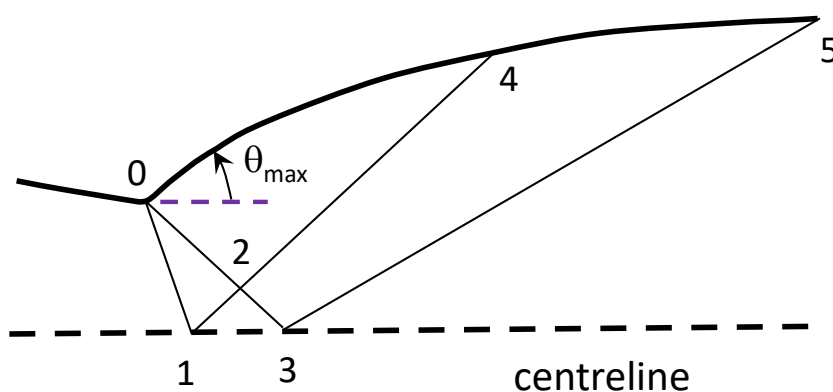

Figure Q.3
- (i) Figure Q.3 below shows four characteristic lines in a 2D convergent-divergent nozzle, designed to accelerate air to an exit Mach number $M_e=1.8$. Show that
- (ii) Complete the following table for a Method of Characteristics (MoC) calculation of a minimum length nozzle, based on Figure Q.3 using two characteristics. The design Mach number is $M_e=1.8$ at point 5, starting from characteristic lines 0-2 at a flow angle of θ_{\max} and 0-1 at a flow angle of $0.5\theta_{\max}$. All quantities have their usual notation.